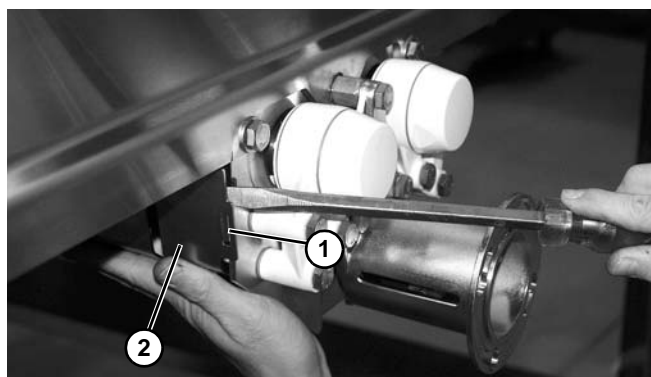

Figure 87
8. Use a flat blade screwdriver to remove slotted area on cover (**Figure 87, item 1**) from tab (**Figure 87, item 2**) on center drive side plate.